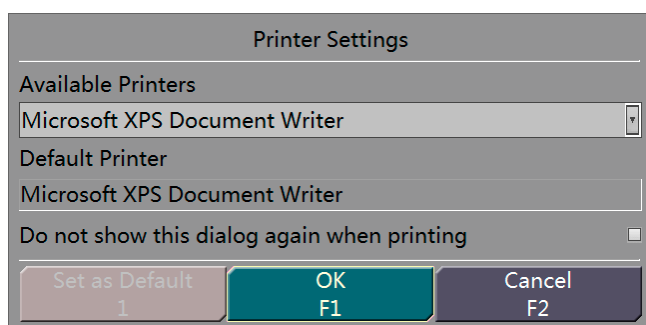

Figure 18-23 Printer Settings Interface
Step 1 Choose System Settings > Printer Settings to display an interface, as shown in Figure 18-23.